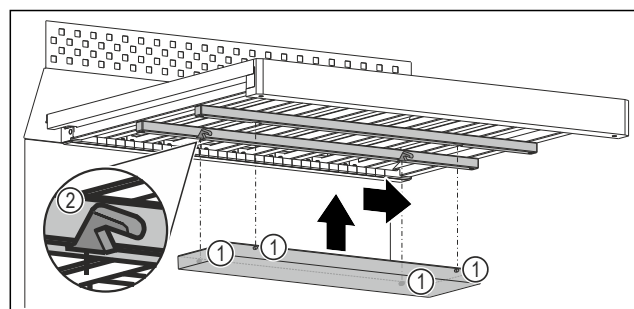

Fig. 98 Example illustration
- ▶ Insert each peg Fig. 98 (1) into the corresponding recess Fig. 98 (2) on the strips under the wooden grate.